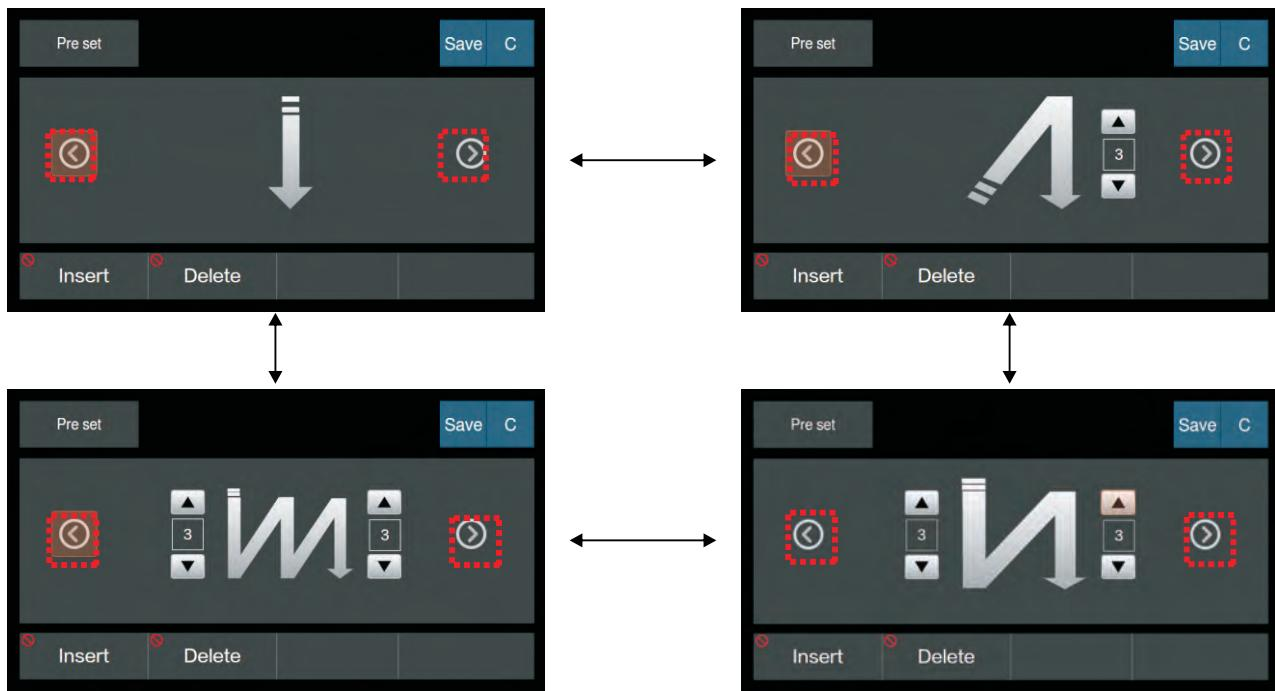

Figure 2-4 Front reverse stitching switching
Touch the pattern in the setting interface. The front reinforcement patterns are cyclically switched as shown in Figure 2-4. Among them, Figure ① pattern is no reinforcement, Figure ② pattern is single segment reinforcement, Figure ③ pattern is two-segment reinforcement, and Figure ④ pattern is four-segment reinforcement. Select the number on the reinforcement pattern and click or long press the icon on the right to modify the number of reinforcement stitches.